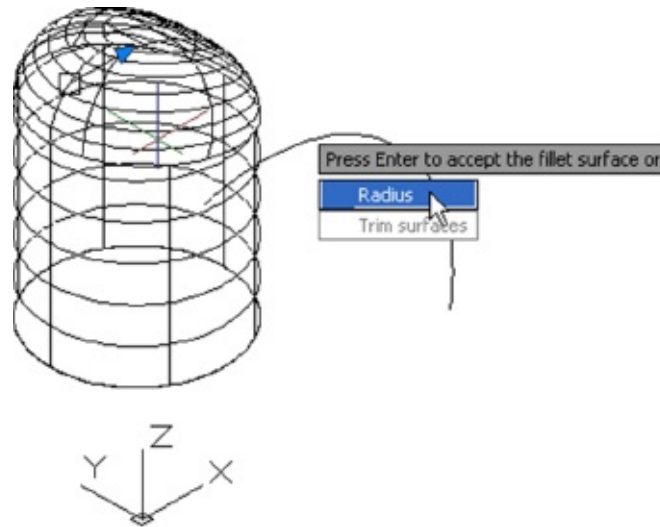

FIGURE 23.45 Using the Surface Fillet tool
2. Click the top surface, and then click the cylinder. The two surfaces are "filleted," as shown in Figure 23.45.